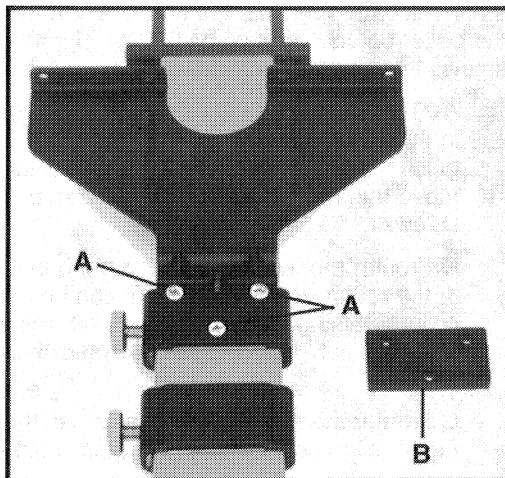

Fig. 6
1. Remove three screws (A) Fig. 6, from edge guide, guide plate. (Store screws for future use).
2. Place edge guide spacer (B) Fig. 6, between guide plate and slide. Secure with three #10-24 x  $\frac{5}{8}$ " screws, from hardware package.